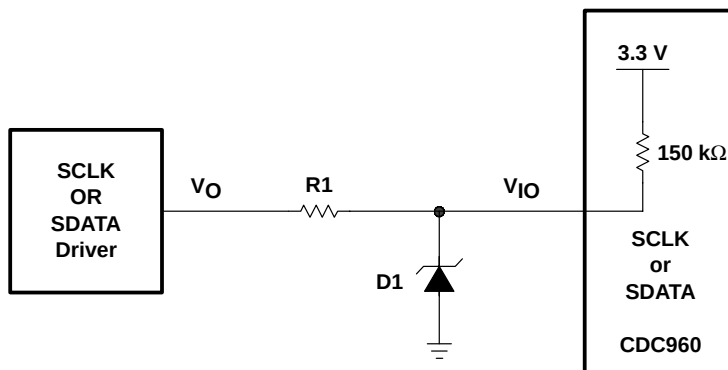
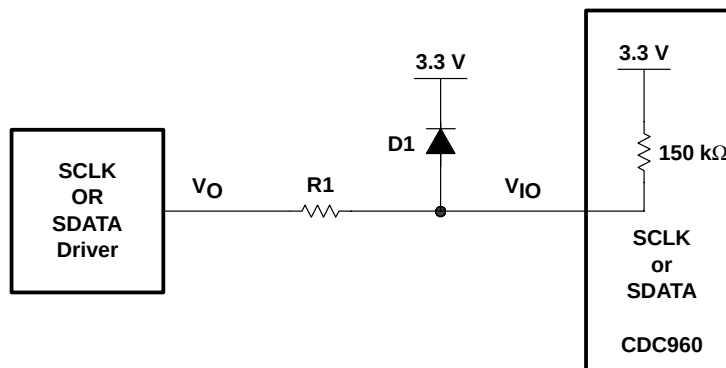

Figure 1. SCLK SDATA Connection to 5-V SMBus Using Zener Diode
Figure 2. SCLK SDATA Connection to 5-V SMBus Using Clamping Diode to V_{DD}
Zener diode D1 in Figure 1 is chosen such that the Zener voltage (V_{ZK}) cannot exceed 300 mV above V_{DD} of the CDC960. The minimum value of V_{ZK} must be greater than 2.1 V to meet minimum requirement for V_{IH} of the CDC960. The value of $R1$ is chosen to satisfy requirements both for I_{OH} of the driver of SCLK and SDATA and for V_{OL} and I_{OL} of SDATA of CDC960.
Diode D1 in Figure 2 should have a small forward voltage (V_F). Ideally, we want V_F to be less than 300 mV to meet the input voltage requirement of the CDC960. International IOR Rectifier has a device (part number 10BQ015) with maximum V_F of 350 mV at 1.0 A. Using the 10BQ015 with $R1 = 150\ \Omega$, the worst-case I_{OH} is calculated using equation (4).
When using the configuration in Figure 2, the power supply is required to have a capability of sinking current. The total amount of sinking current is dependent on the overall load connected to that power supply.
Using the above interface circuitry with a high-impedance source, the available high-level voltage on the SMBus is limited to about (V_{zk}) for the configuration in Figure 1 and ($V_{DD}(\text{CDC960}) + V_F(D1)$) for the configuration in Figure 2. One has to choose which option best fits a given SMBus configuration.
Actually, the typical SMBus configuration is an open-drain configuration with pullup resistors to the corresponding power supply. It does not require a 5-V SMBus driver that has a low impedance to drive the CDC960 SMBus ports with its additional components as shown in Figure 1 and Figure 2. The external components are not needed if the pullup resistors of the SMBus are directly connected to a voltage equal to the supply voltage of the CDC960 (typically 3.3 V). This pullup resistor connection is strongly recommended.